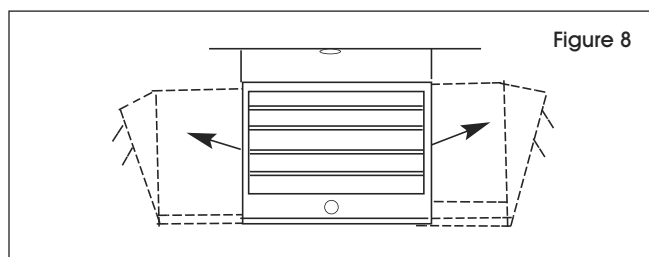

Figure 8
1. Turning the unit: If the unit has been installed with a single lag bolt, simply turn the entire unit as needed to adjust air flow. (See Figure 8)